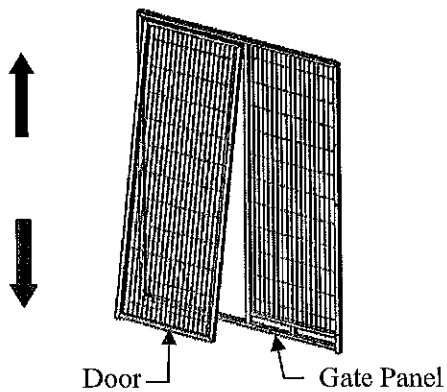

Figure 2
2. Locate the Gate Panels and remove the Door from each Gate Panel. Slightly open and lift up on the door. Once the Door clears the hinge pin at the bottom, pull the bottom of the Door toward you (**Figure 2**). Pull the top of the Door down until the top of the Door clears the top hinge pin.